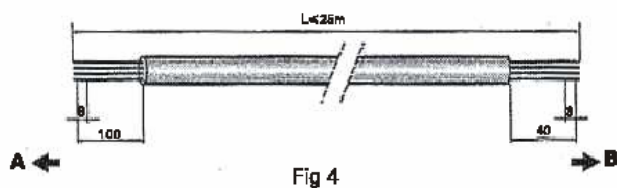

Fig 4
4. Connect the cable ends to the terminals of the indoor and outdoor units, as show in fig4, figs.